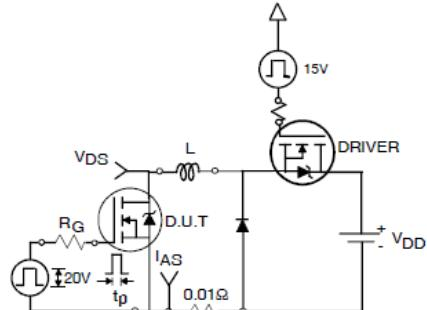

Fig 12a. Unclamped Inductive Test Circuit
- ④ Pulse width $\leq 400\mu\text{s}$; duty cycle $\leq 2\%$.
- ⑤ $C_{oss \text{ eff.}}$ is a fixed capacitance that gives the same charging time as C_{oss} while V_{DS} is rising from 0 to 80% V_{DSS} .
- ⑥ Calculated continuous current based on maximum allowable junction temperature. Package limitation current is 75A.
- ⑦ Limited by $T_{J\max}$, see Fig.12a, 12b, 15, 16 for typical repetitive avalanche performance.
3. Equation below based on circuit and waveforms shown in Figures 12a, 12b.